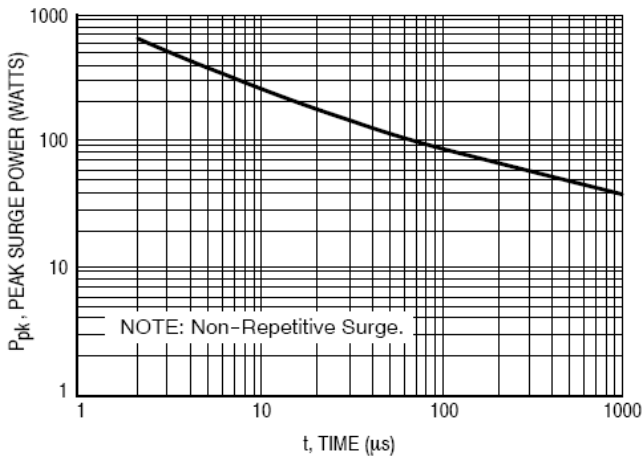
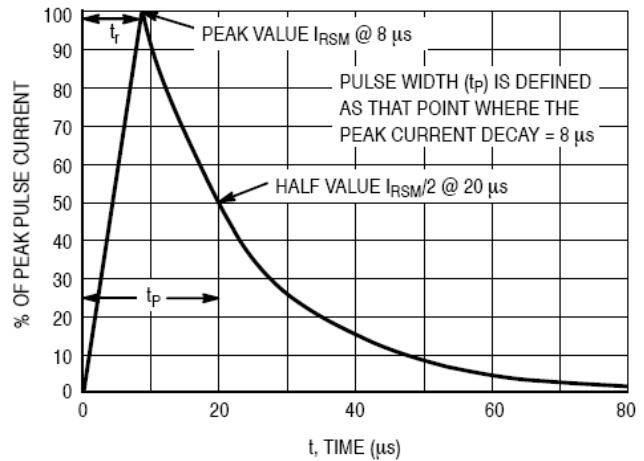

Figure 1. Pulse Width
Figure 2. $8 \times 20\ \mu\text{s}$ Pulse Waveform
1. Non-repetitive current per Figure 1. Derate per Figure 2.